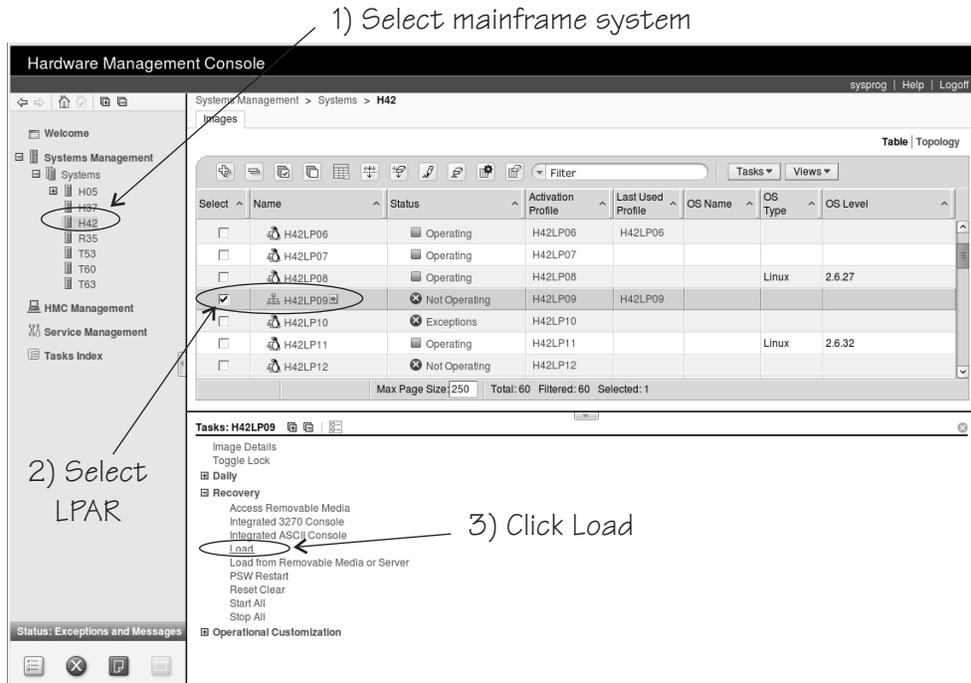

Figure 66. Load task on the HMC
3. In the **Tasks** area, expand **Recovery** and click **Load** (see Figure 66).